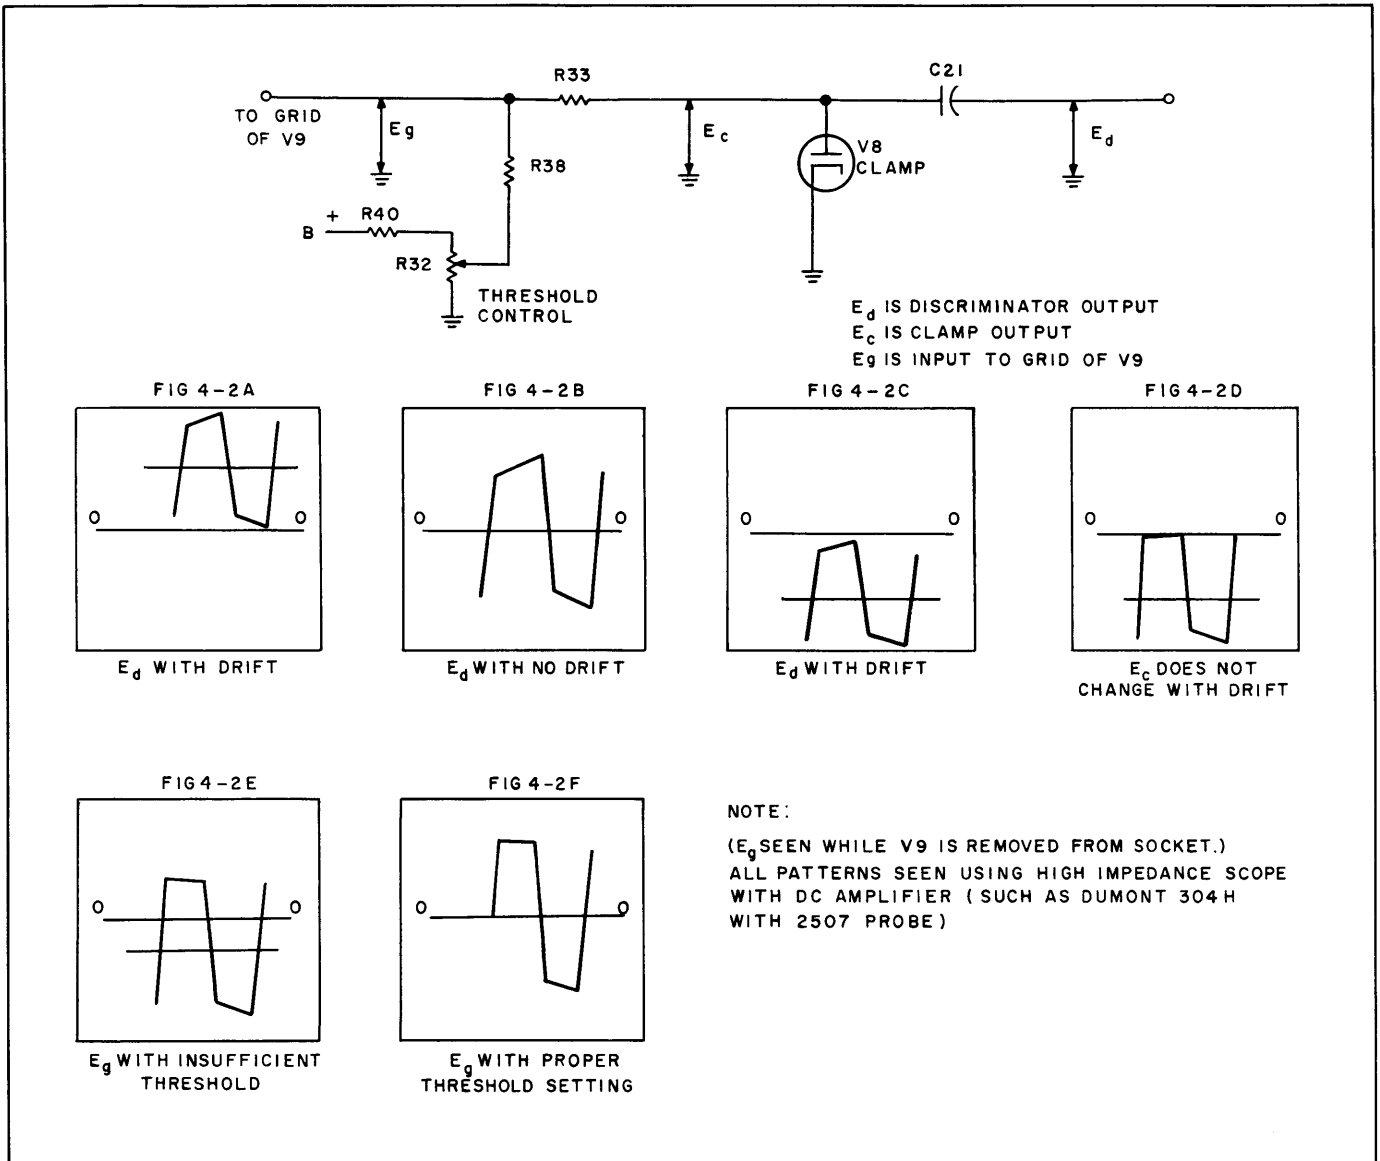

Figure 4-2. Clamp and Threshold Operation
d. CLAMPER V8 - The voltage produced at the output of the discriminator load is symmetrical to an axis which may be positive or negative with respect to ground. The magnitude and polarity of the potential represented by this axis is a function of the degree and direction of drift. (Figure 4-2 A B & C.) The function of the clamper is to treat this drift produced voltage in a such a manner that the remaining pulse circuits are unaware of its presence. Otherwise, the quiescent operating point of V9 would be shifted over a wide range thus producing varying degrees of bias distortion.